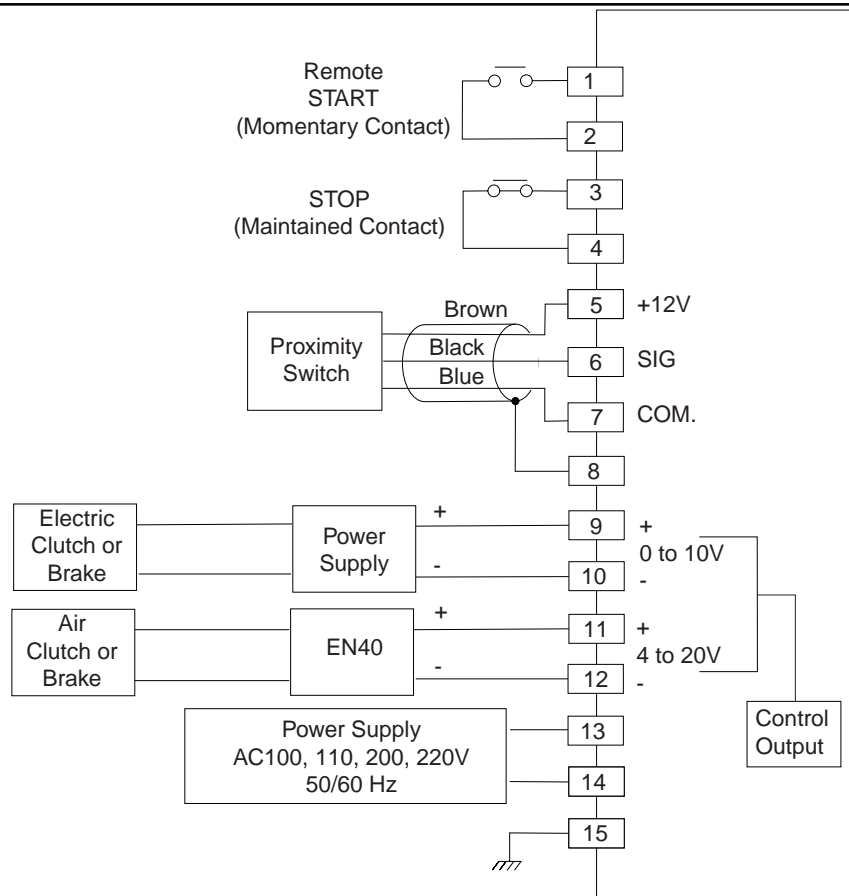

FIGURE 5
1. Set Mode Switch to **AUTO** (See Figure 5).
- a. Rotate **GAIN** Knob counterclockwise for minimum setting (See Figure 5).
- b. Rotate **BIAS** Knob to mid-position setting (See Figure 5).